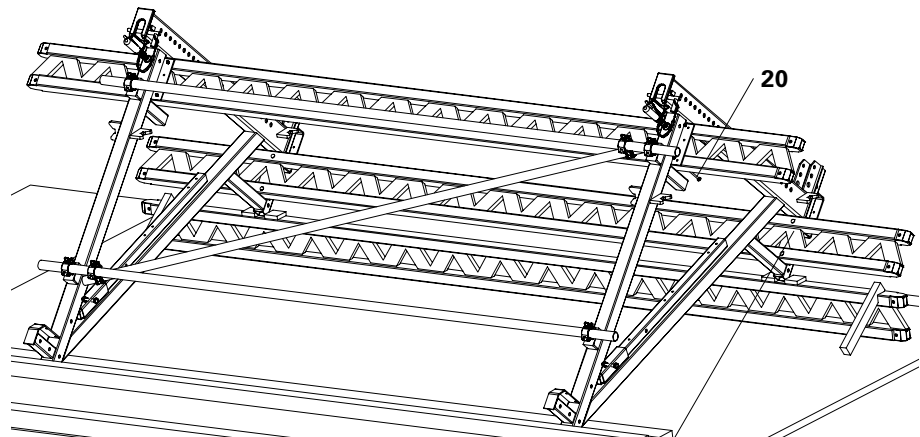

Fig. A1.08
1. Fix Lattice Girder GT 24 (2) by means of screw clamps.
2. Pre-drill Lattice Girder GT 24 (Ø 8) and fix to the mounting plates with 2x F. H. Bolts DIN 603 M8 x 100, MU (20).
- (Fig. A1.08)